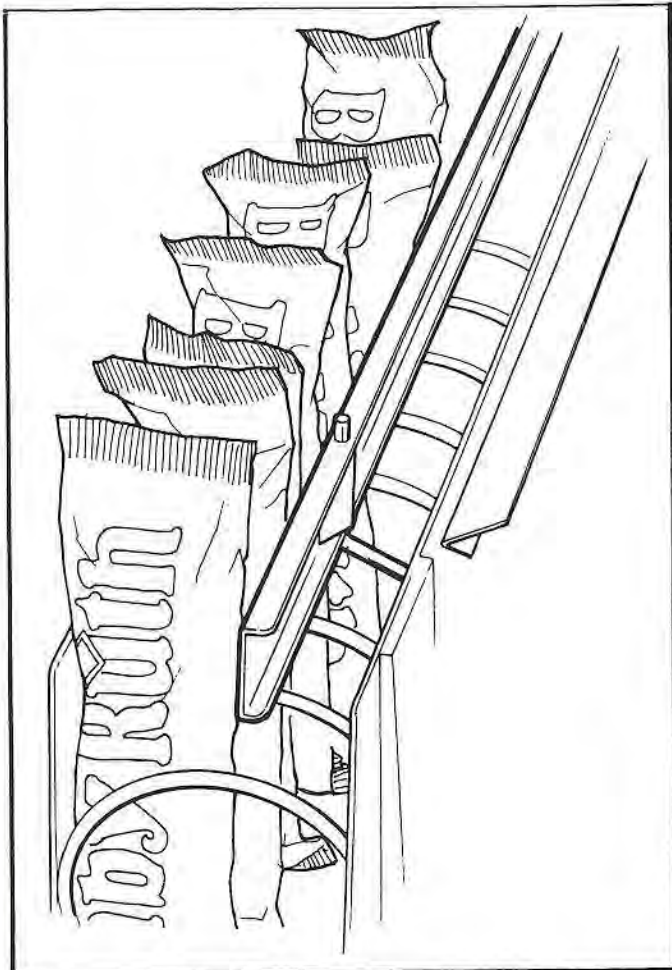

Figure 6. 10 SELECTION SHELF PRODUCT SPACER POSITIONED TO HOLD CANDY UPRIGHT.
8. **PRODUCT SPACERS-10 SELECTION SHELF:** The 10-Selection shelves are equipped with a product spacer (see Figure 6) that can be pivoted from the right side of each product space. These spacers should be pivoted out to hold the product upright, but not tight against the product. Leave about  $\frac{1}{8}$ " clearance between the spacer and the product.